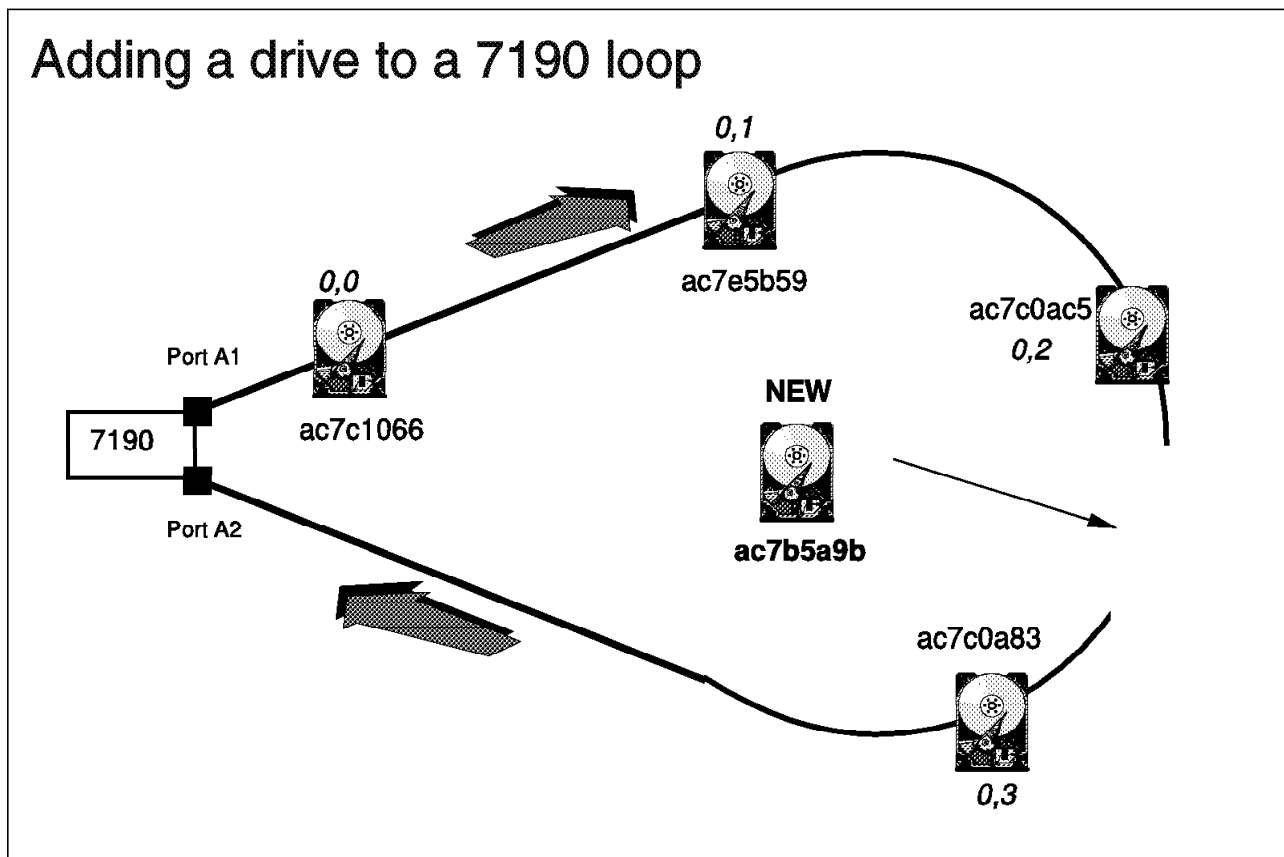

Figure 100. Adding a Single Drive to a 7190 Model 100 SSA Loop
2. Identify where to split the loop. In our example (see Figure 100), we have chosen to insert the drive with UID **ac7e5b59** between **0,2** and **0,3**.